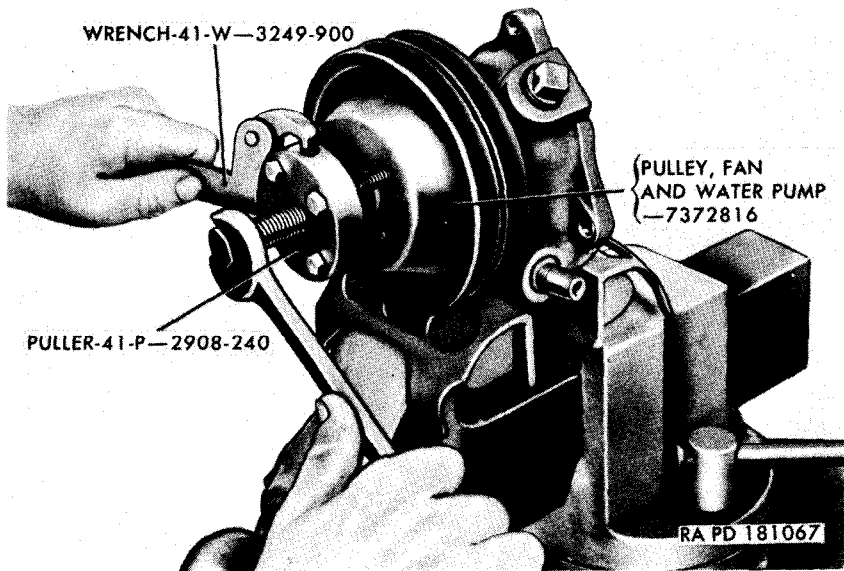

Figure 56. Removing fan and water pump pulley using puller—41-P-2908-240.
d. Turn the assembly over and clamp the vise jaws on the body of the pump. Pull the fan and the water pump pulley from the end of the water pump shaft assembly, using puller 41-P-2908-240 and wrench 41-W-3248-900 (fig. 56).